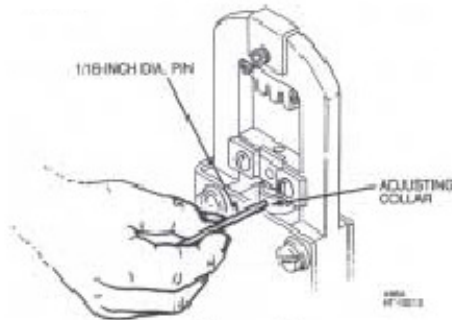

Figure 12
- Close the hand tool lever one click to gain access to the holes in the side of the adjusting collar. Next, insert a pin approximately 1/16-inch in diameter, into one of the holes in the collar (see Figure 12). Then rotate the collar about 5 degrees counterclockwise to increase crimp height.